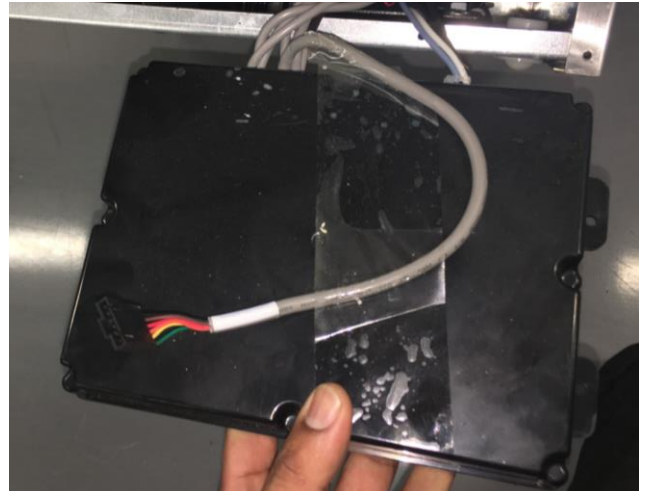

Figure K6: Two halves of Control Board Enclosure aligned.
8. Install the top piece of the Controller Board to align the two halves. **See Figure K6.** Ensure the grommets on the harness does not pop out so it is properly sealed.